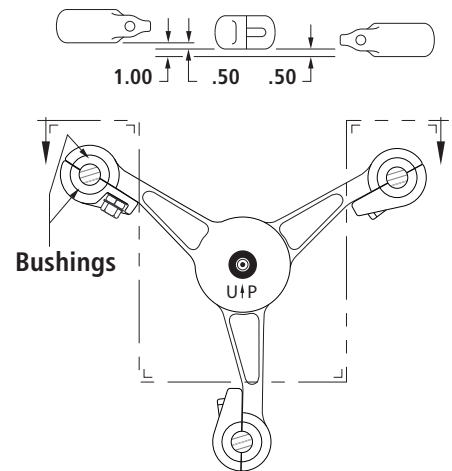

Figure 2
6. Position the spacer damper assembly perpendicular to the conductor centerline within tolerances shown in Figure 2.